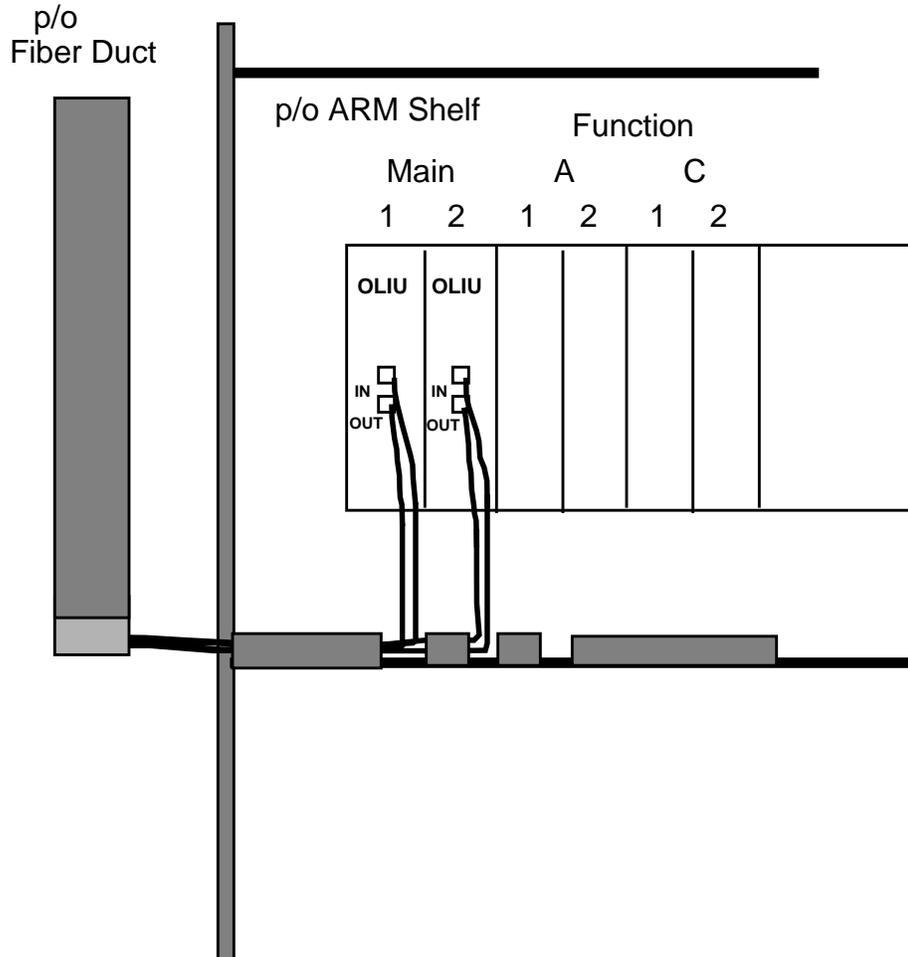

Figure 3-58. Optical Fiber Routing
- Step 1:* Label both ends of the fiber cables in accordance with their associated OLIU, i.e. Main 1 IN, Main 1 OUT, etc. (see Figure 3-58).